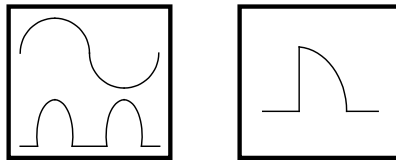

Figure 2-3 RCCB symbols
2. As shown in Figure 2-3, the demonstration of the clearance between the rear panel of the cabinet and the wall is 500mm. The clearance should not be less than 200mm, it needs to be considered according to the actual situation for the sake of maintenance convenience.
The residual current circuit breaker (RCCB) must be sensitive to the DC unidirectional pulse (level A) in power distribution network, but insensitive to the transient current pulse, as shown in Figure 2-3 respectively.